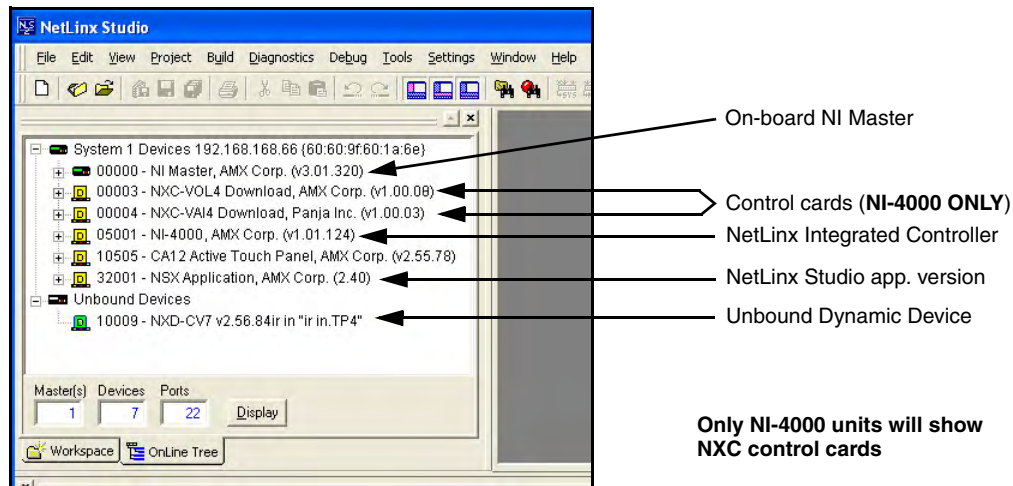

FIG. 31 Sample NetLinX Workspace window (showing OnLine Tree tab)
1. After Studio has establish a connection to the target Master, click on the **OnLine Tree** tab in the Workspace window to view the devices on the System. *The default System value is one (1).*
- After the Communication Verification dialog window indicates active communication between the PC and the Master, verify the NetLinX Master (**00000 NI Master**) appears within the **OnLine Tree** tab of the Workspace window (FIG. 31).